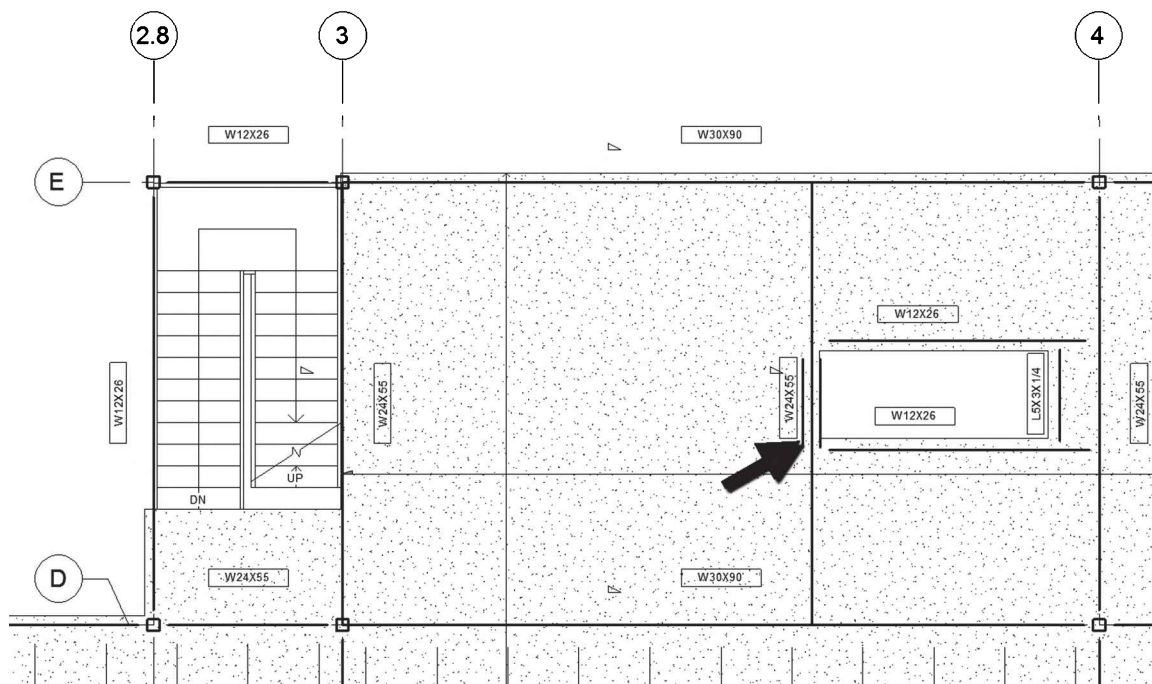

FIGURE 8-4.16 Beam System sketch mode; pick supports and trim used to define perimeter
40. Pick a vertical beam first (see highlighted beam in Figure 8-4.16); this defines the beam span. The beam span is defined by picking a beam parallel to the desired joist span.